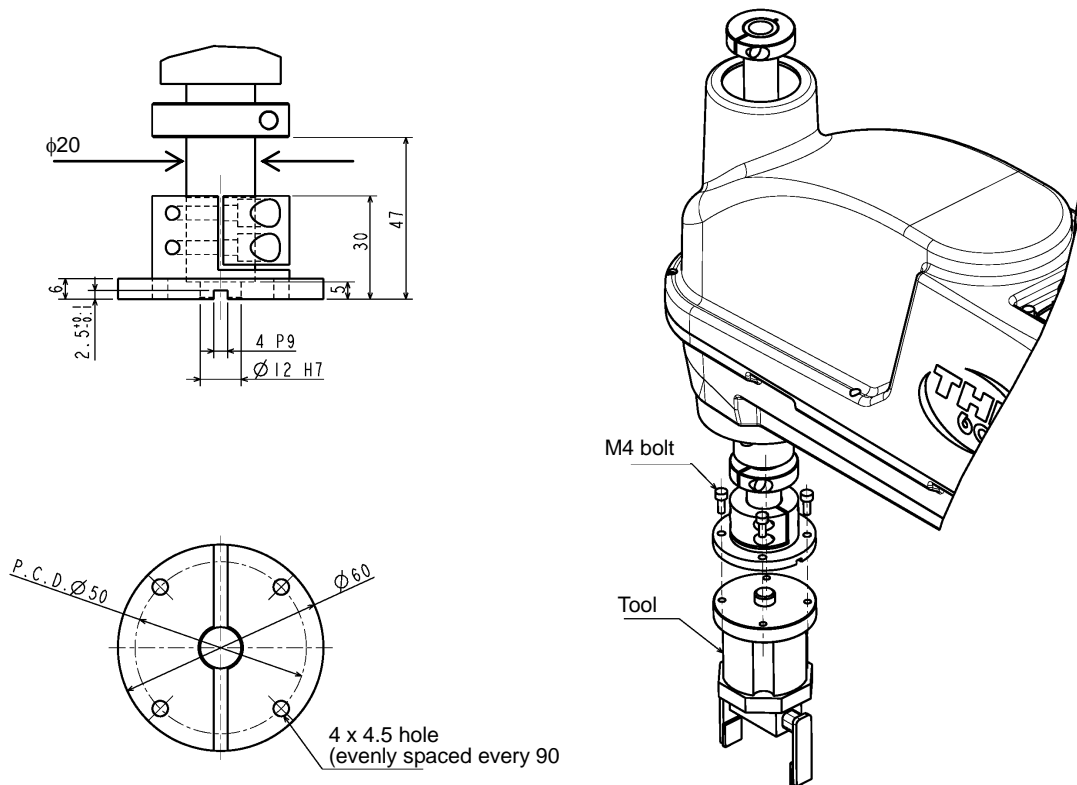

Fig. 18.1 Tool mounting dimensions (THL800, THL900 and THL1000)
The tool is mounted on the end of the tool shaft. Dimensions of the tool shaft section are shown in Fig. 18.1. As shown in Fig. 18.1, the tool is centered with the  $\phi 12H7$  mating section. The tool direction is adjusted by means of the 4 x 4 keys and secured with four (4) M4 bolts.